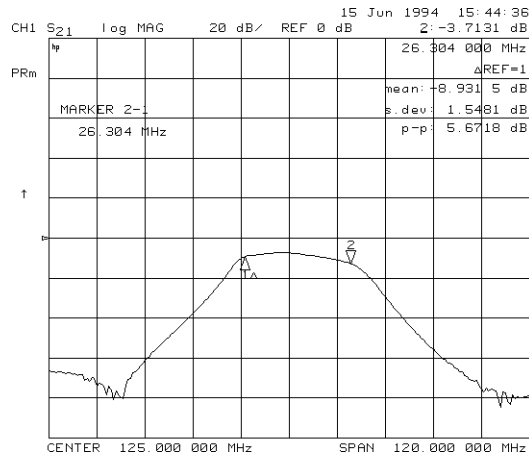

Figure 7-12. Example of the Statistics of Measurement Data
- 4 Press **MARKER FCTN**, **MARKER MODE MENU**, **STATS ON** to calculate and view statistics on the measurement data between the active marker and the delta reference marker, as shown in **Figure 7-12**.